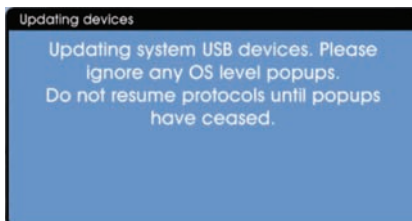

Figure 150: "Updating devices" dialog box
8. The "Updating devices" dialog box will now appear (see Figure 150).